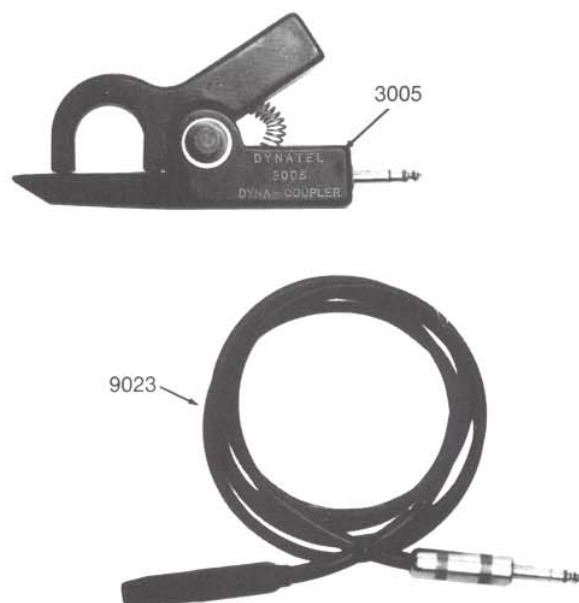

Fig. 30 — Accessories
7.05 Available Connection Cables and Accessories (Fig. 30)